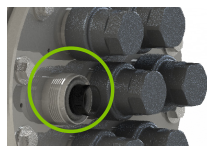

Figure 7: O-ring installation on sleeve
Step 7: The reactor is now ready for water flow. **WARNING:** Sudden filling of an empty reactor could potentially break the protective quartz sleeves. It is strongly recommended to gradually fill the empty reactor. Damage because of sudden filling is not covered under warranty. When all plumbing connections have been completed you should check for any possible leaks. Slowly turn on the water supply and check for leaks. Make sure the by-pass valves are functioning properly and that the water is flowing through the reactor. The most common leak is from the O-rings (**Figure 7**) not making a proper seal on the reactor. If this is the case turn the water off, drain the reactor, remove each O-ring, dry them and reapply silicon grease. Replace each O-ring ensuring they are properly sealed against the reactor, retighten the gland nuts and check again for leaks. **WATER-HAMMER WARNING:** Quartz sleeves can break inside the reactor if water-hammer occurs. Water hammer is caused by sudden closing of valves elsewhere in the piping system. It is strongly recommended to ensure that the piping and valve system is designed to prevent water-hammer. Damage due to water-hammer is not covered by warranty.
Step 10: Before the lamp is completely inserted into the sleeve, affix the lamp to the lamp connector as shown in Figure 7. Affix the LUMI-Loc™ connector into the gland nut by aligning the arrows with the pins in the nut and turning connector ¼ turn to lock the connector to the gland nut.